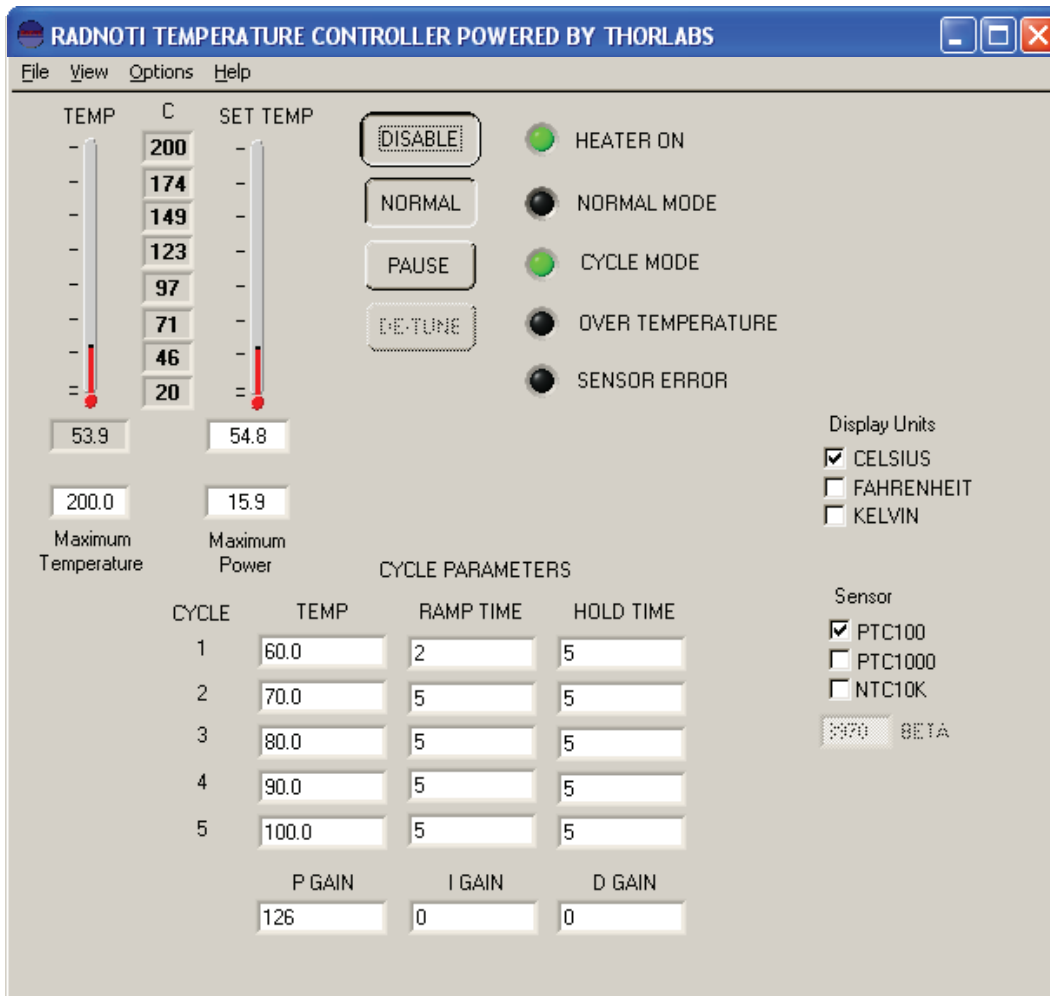

Figure 5 - Heater Enabled in Cycle Mode
- Figure 5 shows an active connection to a unit set to 54.5 °C and configured for Normal Mode.